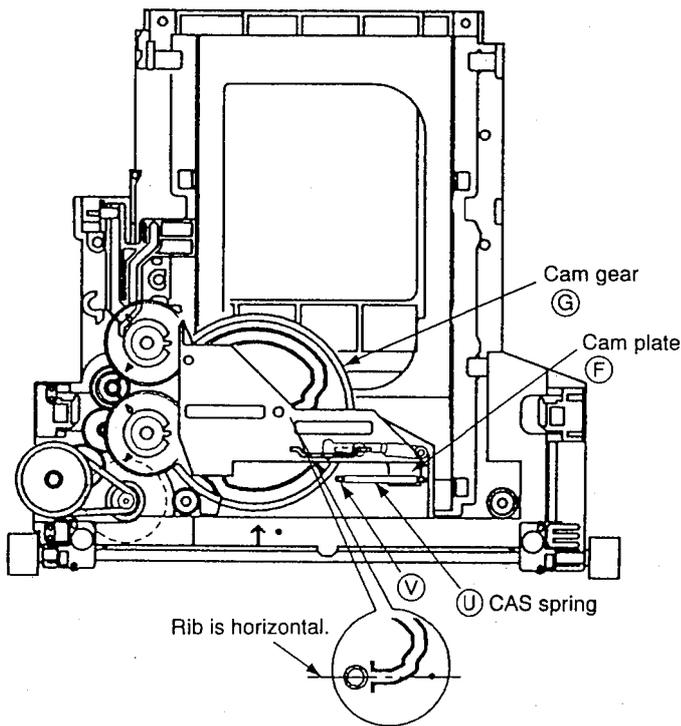

Fig. 1-10 Attach the cam plate
3. Turn the cam gear ③ in a counterclockwise direction until the start portion of the cam gear becomes horizontal (Fig. 1-10).
4. Attach the CAS spring ④ (Fig. 1-10) to the cam plate ⑤ and hook the ⑥ side of the CAS spring to the hook of the mechanism base, and move the boss on the bottom center of the cam plate to the left side of the cam gear horizontal portion, attach the cam plate.